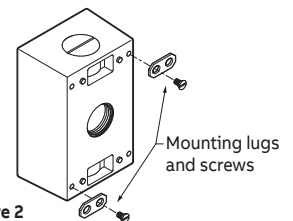

Figure 2
2. Select two of the four small holes in the back of the box that best suit your installation and attach the mounting lugs using the 1/4" long screws. For most applications, lugs will be mounted diagonally from each other (Figure 2).